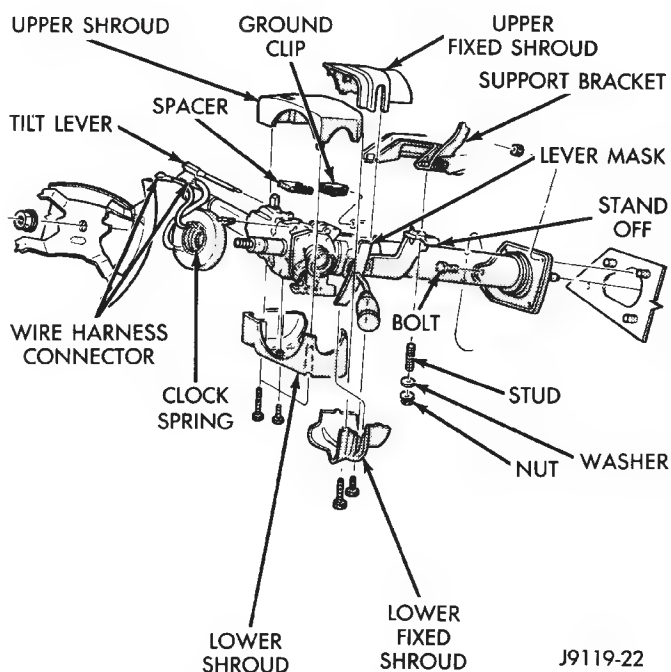
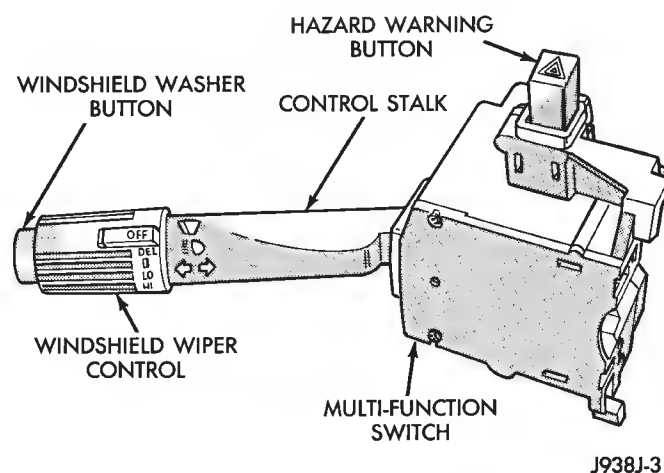

Fig. 14 Steering Column Shrouds
Fig. 15 Multi-function Switch
- (3) Remove lower instrument panel/knee blocker.
- (4) Remove tilt lever.
- (5) Remove both upper and lower lock shrouds from column (Fig. 14).
- (6) Remove lower fixed column cover.
- (7) Loosen steering column upper bracket nuts. Do not remove nuts.
- (8) Move upper fixed column shroud to gain access to rear of multi-function switch.
- (9) Remove multi-function switch tamper proof mounting screws (tamperproof torx bit Snap On TTXR20B2 or equivalent required).
- (10) Gently pull switch away from column. Loosen connector screw. The screw will remain in the connector.
- (11) Remove connector from multi-function switch (Fig. 15).